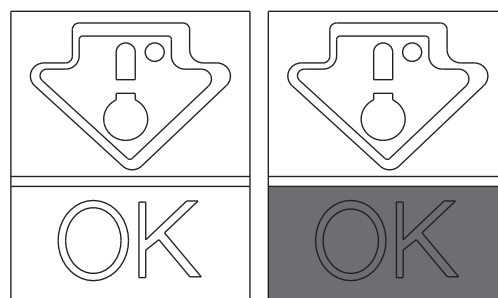

Fig.4
- To maintain the best flavour, nourishment and freshness of foods, it is advisable to store them in the refrigerator compartment as shown in fig. 4 below, making sure to wrap them in aluminium or plastic sheets or in appropriate covered containers to avoid cross-contamination.
Check that on the indicator of the temperature, the word OK is clearly shown. (fig.4 )